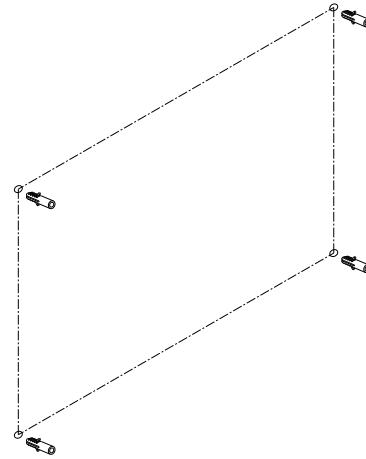

Fig. 4
- Take away the bracket and then, using an 8mm drill bit, drill holes in the wall. Put the plastic wall anchors into the holes. (Fig. 4)